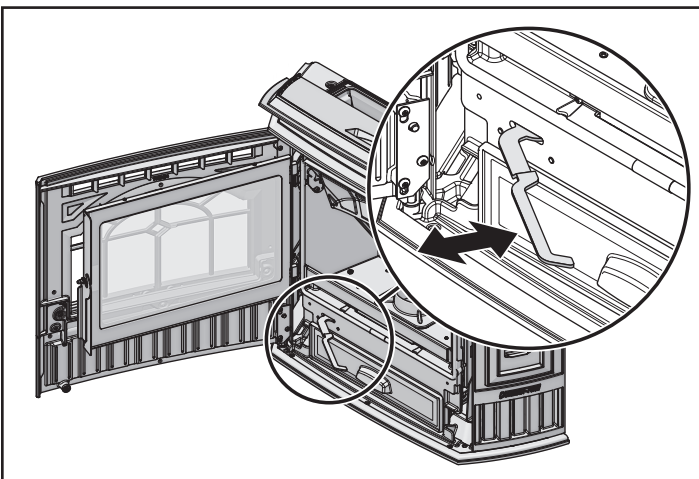

Figure 17.2
- Pull fire pot floor cleaning lever two times until the ash falls into the ash pan below. **Figure 17.2**